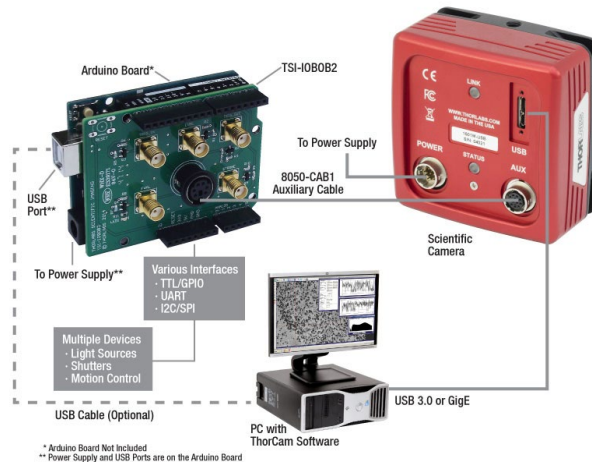

Figure 5: A schematic showing a system using the TSI-IOBOB2 to facilitate system integration and control.
As an example of how camera triggering can be integrated into system control is shown in Figure 5. In the schematic, the camera is connected to the TSI-IOBOB2 break-out board / shield for Arduino using a 8050-CAB1 cable. The pins on the shield can be used to deliver signals to simultaneously control other peripheral devices, such as light sources, shutters, or motion control devices. Once the control program is written to the Arduino board, the USB connection to the host PC can be removed, allowing for a stand-alone system control platform; alternately, the USB connection can be left in place to allow for two-way communication between the Arduino and the PC. Configuring the external trigger mode is done using ThorCam as described above.
In contrast, the shorter FFD of CS-mount lenses makes them incompatible for use with C-mount cameras (Figure 5). The lens and camera housings prevent the lens from mounting close enough to the camera sensor to provide an in-focus image, and no adapter can bring the lens closer.
**Figure 5:** A CS-mount lens is not directly compatible with a C-mount camera, since the light focuses before the camera's sensor. Adapters are not useful, since the solution would require shrinking the flange focal distance of the camera (blue arrow).